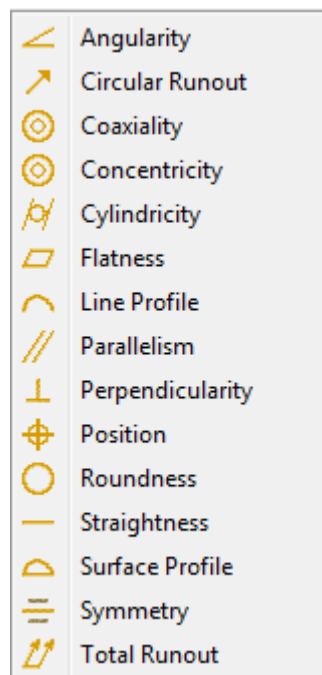

Figure 3. List of geometric tolerance characteristics
- In the **Characteristic** drop down list select the type of geometric tolerance to be created (see Figure 3). **Note.** In case an incorrect or not available type of tolerance is selected, the error message appears in the bottom section of the wizard.